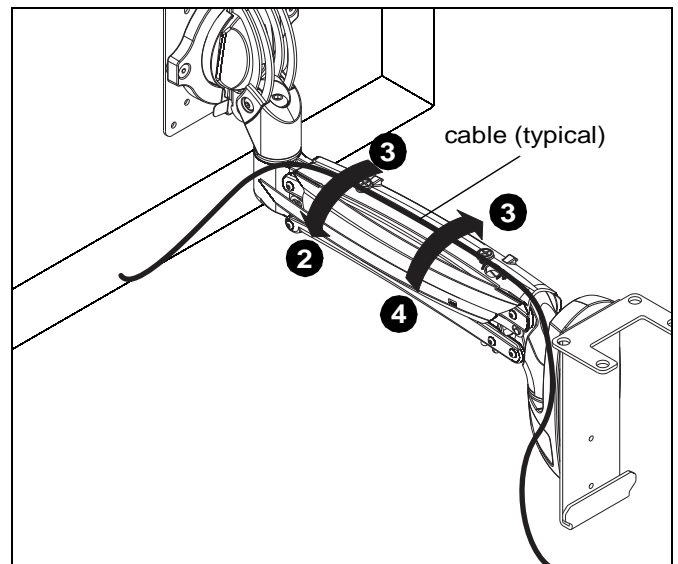

Figure 16
3. Route cables through cable management channels. (See Figure 16)
4. Close cable management covers on monitor arm. (See Figure 16)